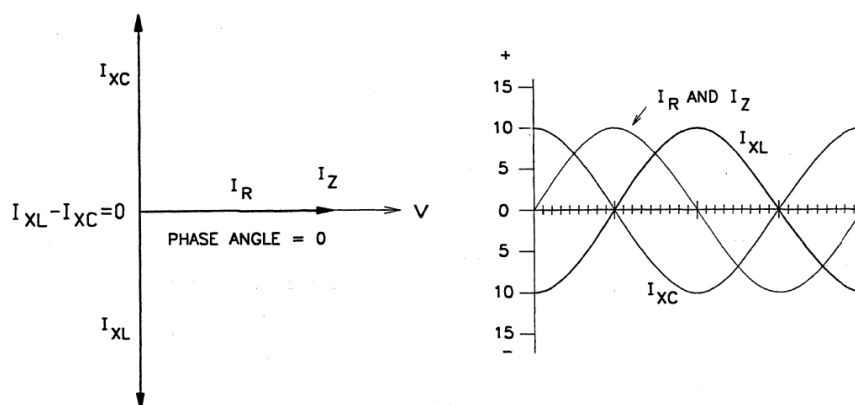

Figure 11 – Parallel resonant circuit
53. In a parallel resonant circuit the current in the inductor and the current in the capacitor are equal and opposite, so they cancel each other out, therefore the current in the circuit is at its lowest possible value because it is limited only by the d.c. resistance of the resistive component, as shown in Figure 11.